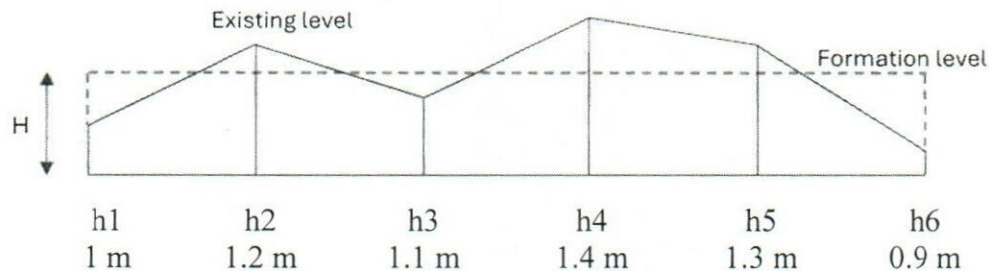

Figure Q7
- b) An embankment with a constant width (b), length (L), height (H), and side slope (1: n) must be reconstructed efficiently. Using the cross-section method, find the existing volume of soil in the embankment assuming $b = 10$ m, $L = 25$ m, and $n = 2$ using a suitable method. The height of the embankment (h) given by Figure Q7, is obtained at 5 m intervals.